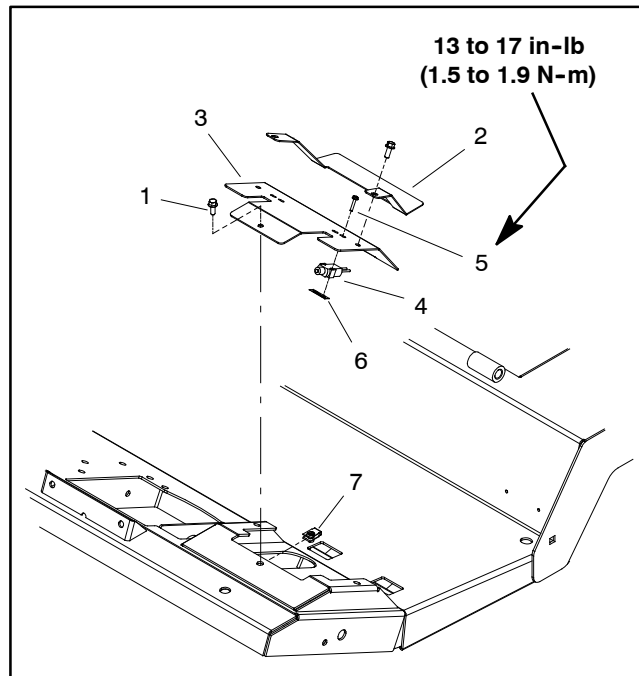

Figure 43
The two (2) switches used for the service brakes are normally open switches that are located under the footrest panel (Fig. 43). The service brake switches provide inputs for the TEC controller. When a brake pedal is not depressed, the brake pedal assembly contacts the switch plunger to close the switch. When a brake is applied, the brake pedal assembly moves away from the switch plunger, allowing the switch plunger to extend and the switch to open.
3. Remove brake cover and switch plate on operator platform to access service brake switches (Fig. 43).